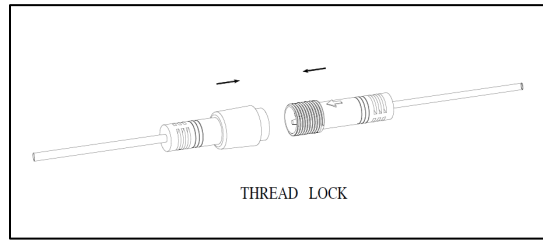

Figure 3
4. Connect the remote driver box to the trim module and tighten the nut connector by hand. Arrow on the male and female parts of the connector between the driver and fixture cable should match. (Figure 3)